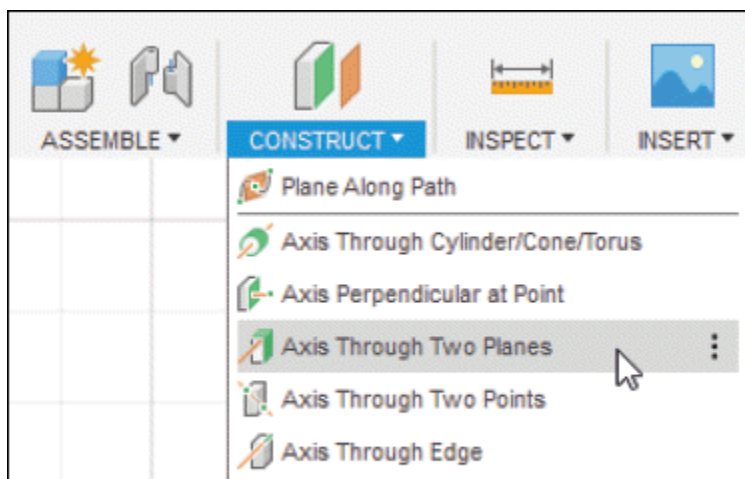
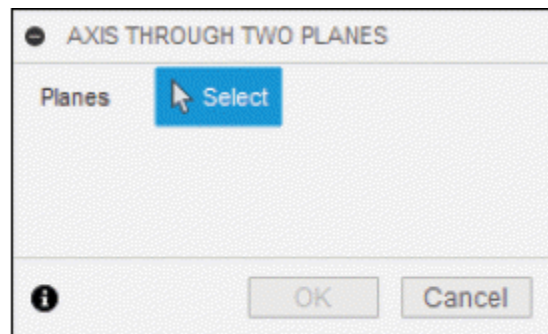

Figure-108. Axis Through Two Planes tool
Figure-109. AXIS THROUGH TWO PLANES dialog box
- Click on the **Axis Through Two Planes** tool of **CONSTRUCT** drop-down from **Toolbar**; refer to Figure-108. The **AXIS THROUGH TWO PLANES** dialog box will be displayed; refer to Figure-109.